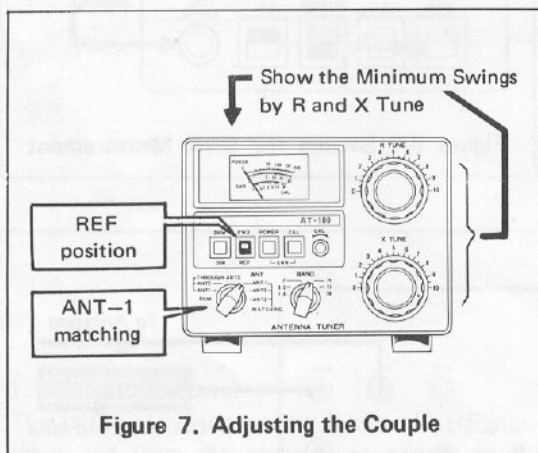

Figure 7. Adjusting the Couple
- Set the BAND switch to an operating band position as shown in Figure 7.